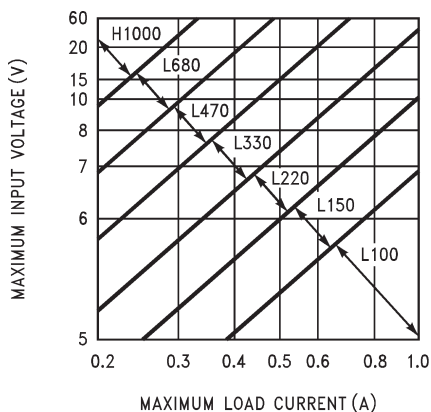
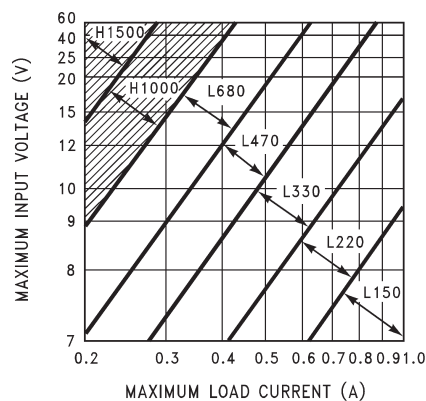
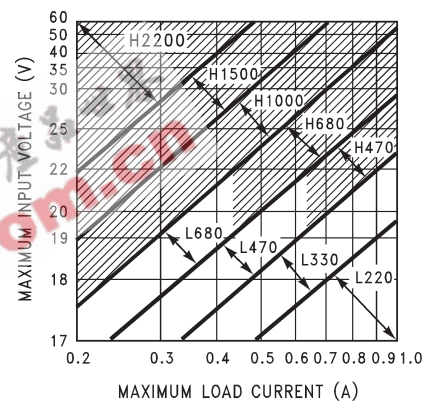

Figure 15. TL2575-33
Figure 16. TL2575-50
Figure 18. TL2575-15
1. Inductor Selection (L1) A. From Figure 15 through Figure 18, select the appropriate inductor code based on the intersection of $V_{IN(Max)}$ and $I_{LOAD(Max)}$. B. From Table 2, choose the appropriate inductor based on the inductor code. Parts from three well-known inductor manufacturers are given. The inductor chosen should be rated for operation at 52-kHz and have a current rating of at least $1.15 \times I_{LOAD(Max)}$ to allow for the ripple current. The actual peak current in L1 (in normal operation) can be calculated as follows: $I_{L1(pk)} = I_{LOAD(Max)} + (V_{IN} - V_{OUT}) \times t_{on} / 2L1$ Where $t_{on} = V_{OUT} / V_{IN} \times (1/f_{osc})$	1. Inductor Selection (L1) A. From Figure 16 (TL2575-05), the intersection of 20-V line and 1-A line gives an inductor code of L330. B. L330 → L1 = 330 μH Choose from: 34042 (Schott) PE-52627 (Pulse Engineering) RL1952 (Renco)